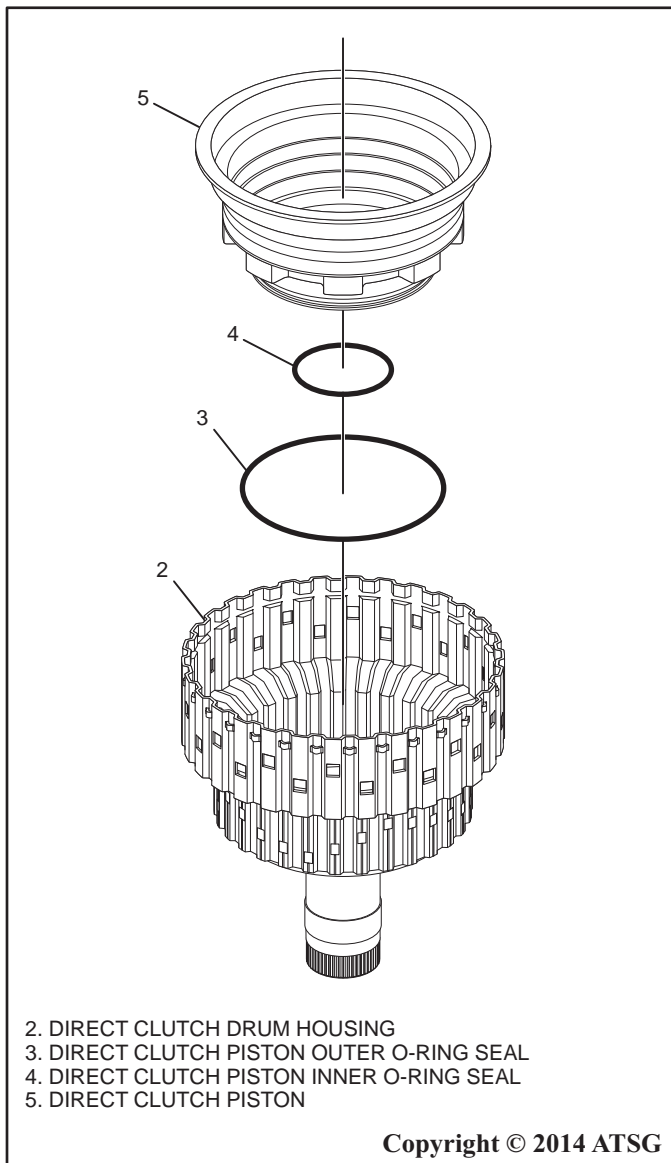

Figure 99
4. Install a new inner and outer o-ring into the direct clutch piston and lightly coat them with ATF or Trans-Jel®. Then install the piston into the direct clutch housing as shown in Figure 99.